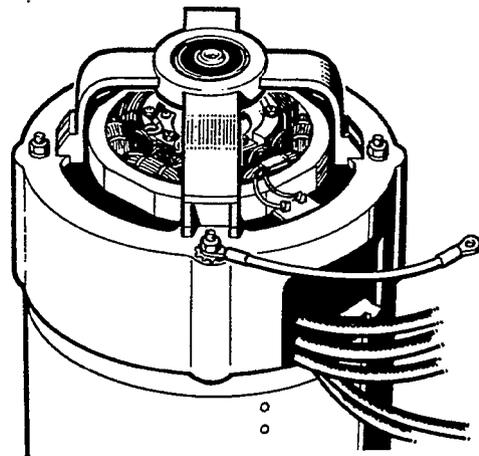

FIGURE 55. END BELL REMOVAL
3. Remove four nuts from rotor-through-studs, Figure 55.